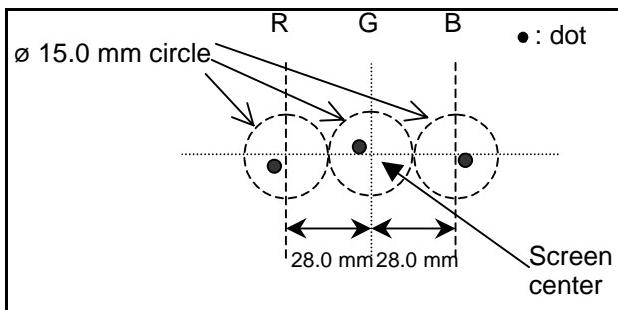

Figure 27. Electric Focus Adjustment
10. If the center of Indian Head pattern is not in f 15.0 mm circle that shown Figure 27, adjust centering magnets that the center of Indian Head pattern is in f 15.0 mm circle that shown Figure 27 and repeat alignment magnet adjustment and four pole magnet adjustment again (repeat step 1 to step 8).